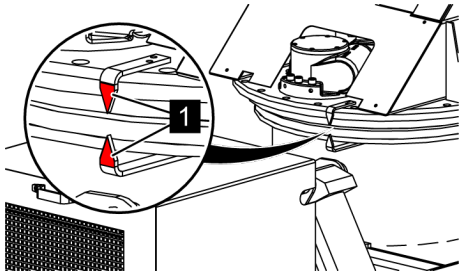

Fig. 100: Transport position
7. → The platform is aligned in transport position if the red arrows (Fig. 100/1) on the rotating assembly meet.